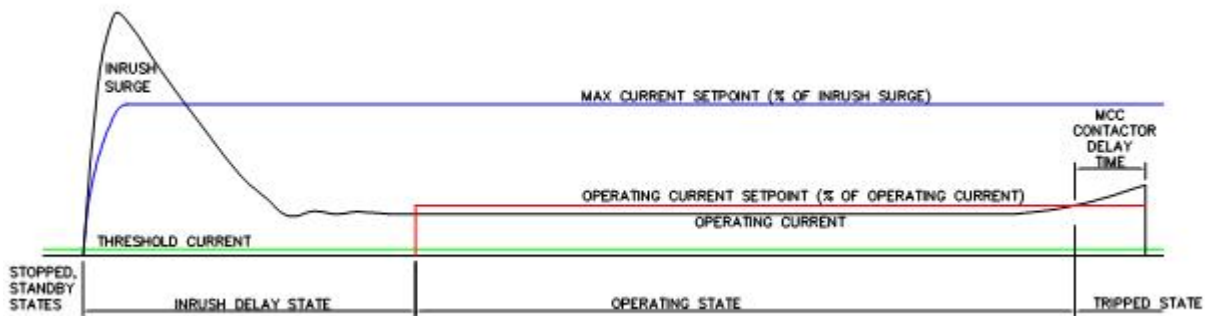

Figure 1: Typical Test Sequence
- 4.7 Figure 1 shows a hypothetical current trace for a test. The relay progresses through various states according to the sensed current.